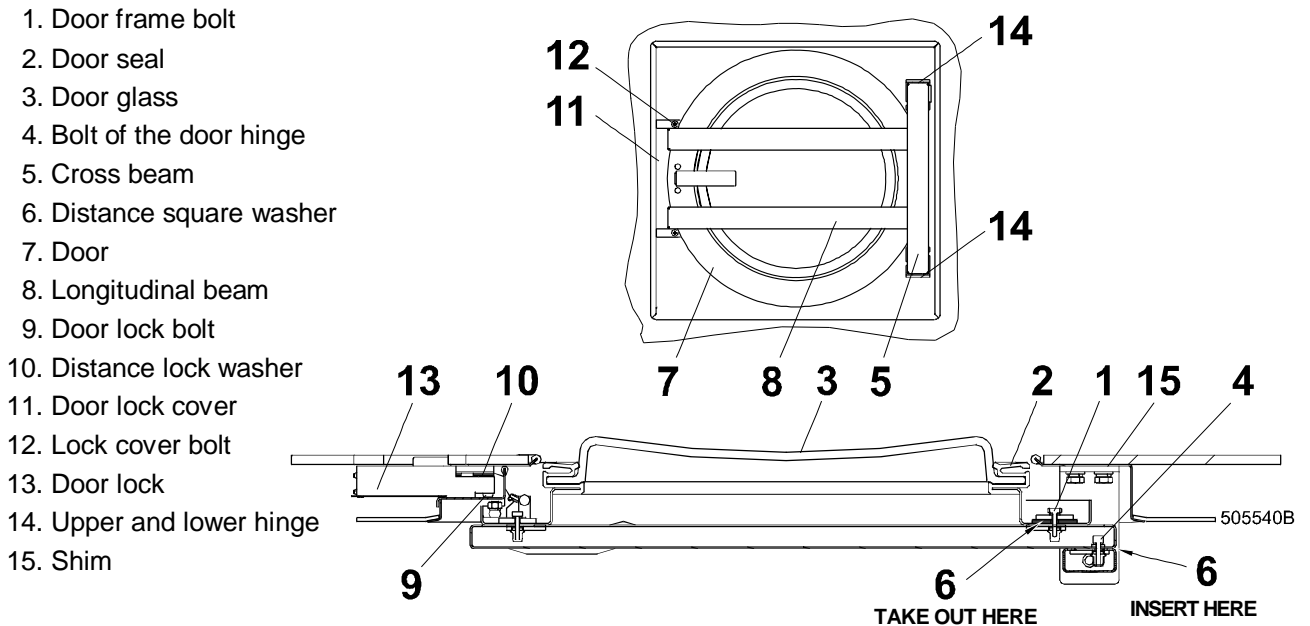

Fig.5.2.1.B Door fastening
1. Open the door. Remove the door glass, fig.5.2.1.A, B., pos.3 with rubber (pos.2) from the stainless steel door frame by pushing it towards the drum. Do it carefully, do not damage the glass.
2. Remove the gasket (pos.2) from the glass.
4. Moisten the seal groove (pos.2) for door with soap water. Place a smooth cord in the groove all around. Tighten up the margin by cord and fit the unit to the door opening (pos.5) (with the clip up). Hold one end of the cord firmly on the door. Pull the other cord end towards the center of the glass for the rubber edge properly fit in.